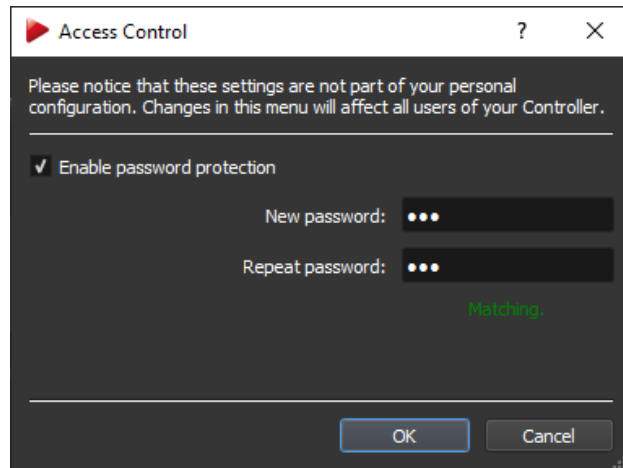

Figure 7.1: Enable Access control
**Enable password protection** Open the corresponding dialog via **DTRACK3** → *Password* and tick the checkbox *Enable password protection*. Please refer to figure 7.1 on page 58. Next enter your selected password in the entry fields 'New password' and 'Repeat password' respectively. If both entries are matching the fields will turn green and a corresponding message will appear. Press *OK* and a warning message will appear next. If you are sure press *OK* to accept the password for protection. Otherwise press *Cancel* to return to the dialog.